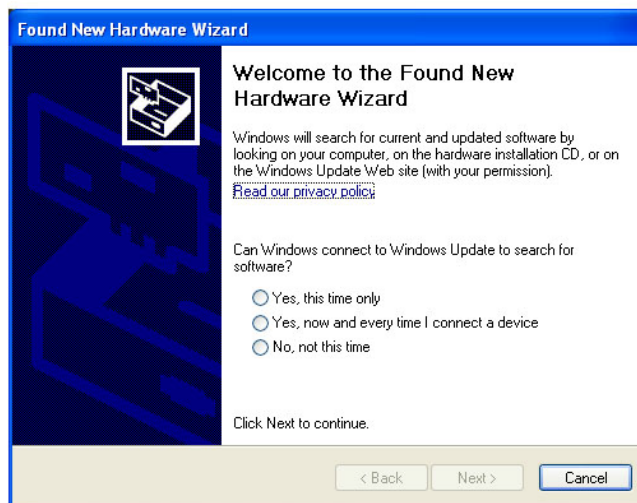

Figure 4-3. Hardware Wizard Screen
4. Figure 4-3 shows the window that pops up when the USB cable is connected to the indicator and the scale is turned on. Follow the screen prompts to navigate through the software install process.